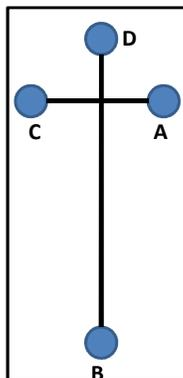

Figure 31. Diagram of basic cross microfluidic chip. Reservoir Guide: A=Sample; B=Buffer waste; C= Sample waste; D=Buffer
In the pinched injection the load step uses applied voltages at all four reservoirs to define a time-independent volume between the sample (A) and sample waste (C) reservoirs. An inject step applies a different voltage sequence to pull back the sample and sample waste fluid while sweeping the defined injection plug from buffer to buffer waste. **Figure 31** shows a diagram of a generic microfluidic chip. This example assumes the use of a standard Caliper NS12A chip.